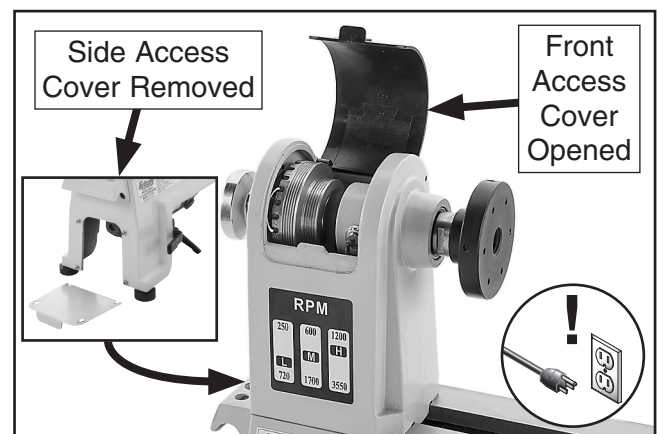

Figure 23. Location of side, front access covers.
4. Open front access cover and remove side access cover (see **Figure 23**).